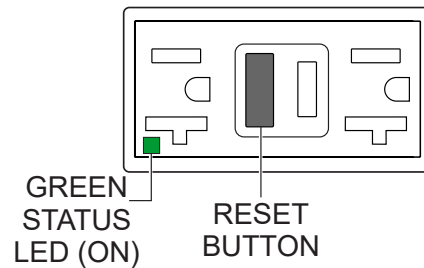

Figure 81. GFCI Receptacle (ON/Restore)
5. Press the **RESET** button (Figure 81) to restore power to the GFCI receptacle and verify that the status LED is **ON (GREEN)**.